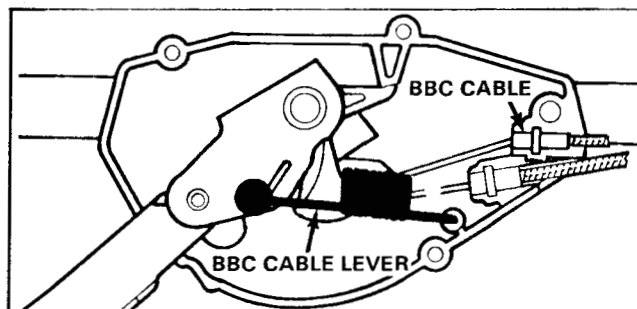

Figure 83
7. Release the BBC cable lever from the control hook and install the BBC cable into the cable lever. See Figure 83.